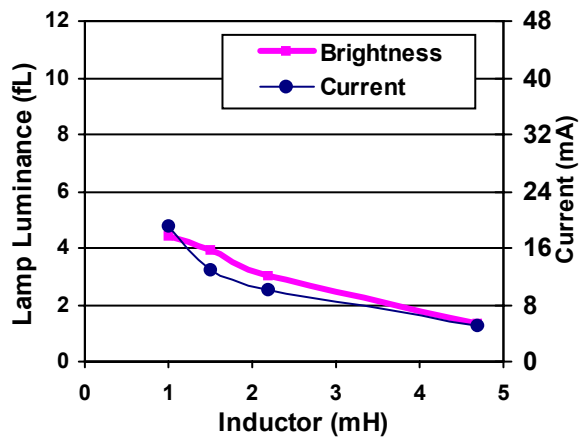

Figure 3:  $V+ = 1.5V$ ,  $1 \text{ in}^2$  EL Lamp
The external inductor (L) selection for a D355B circuit greatly affects the output capability and current draw of the driver. A careful designer will balance current draw considerations with output performance in the choice of an ideal inductor for a particular application. Figures 3, 4, and 5 show typical brightness and current draw of a D355B circuit with different inductor values, lamp sizes, and supply voltages while keeping the LF constant. Please note that the DC resistance (DCR) of inductors with the same nominal inductance value may vary with manufacturer and inductor type. Thus, inductors made by a different manufacturer may yield different outputs, but the trend of the different curves should be similar. Lamp luminance is also a function of lamp size. In each example, a larger lamp will have less luminance with approximately the same current draw.